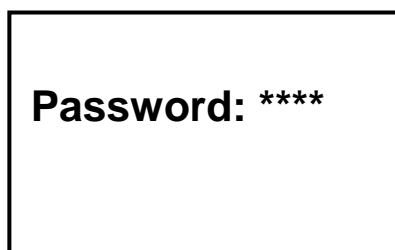

Fig. 4-9
- 3). Press  button and LCD displays as Fig. 4-9. Enter the user password (default value is “AAAA”)